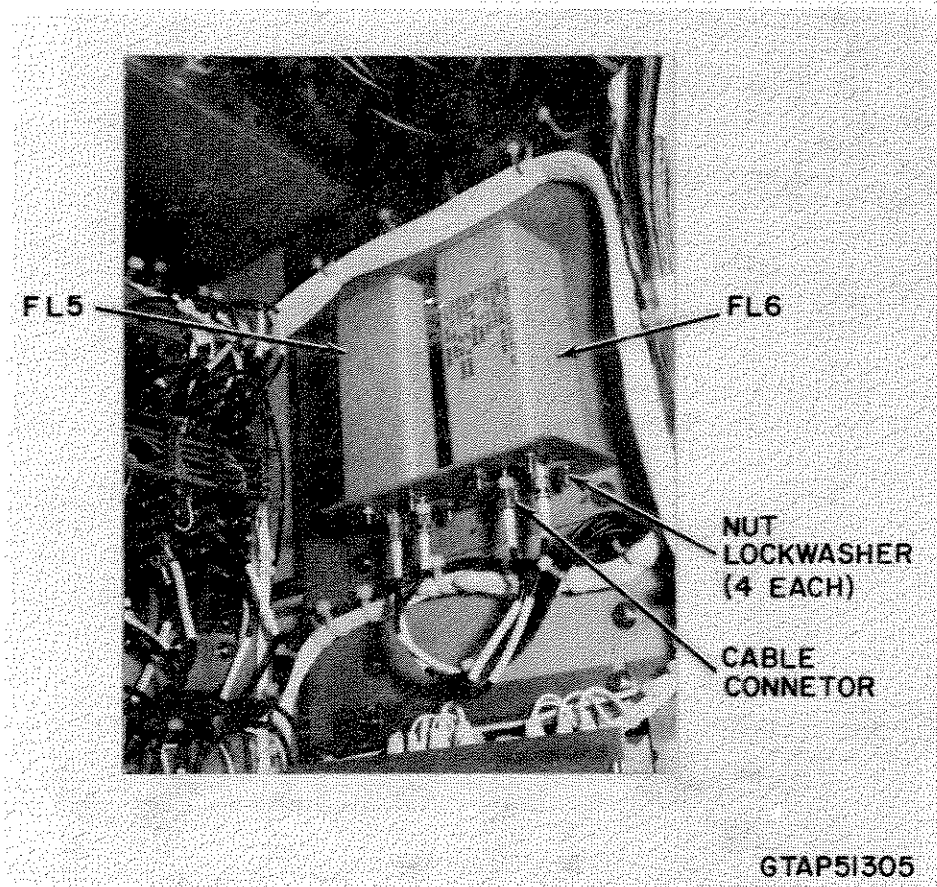

Figure 6-78. Exciter/Auxiliary Exciter Cabinet, Unit 151/152, Radio Frequency Filters FL5 and FL6
2. Release and disconnect 2 cable connectors from filter (Figure 6-78).